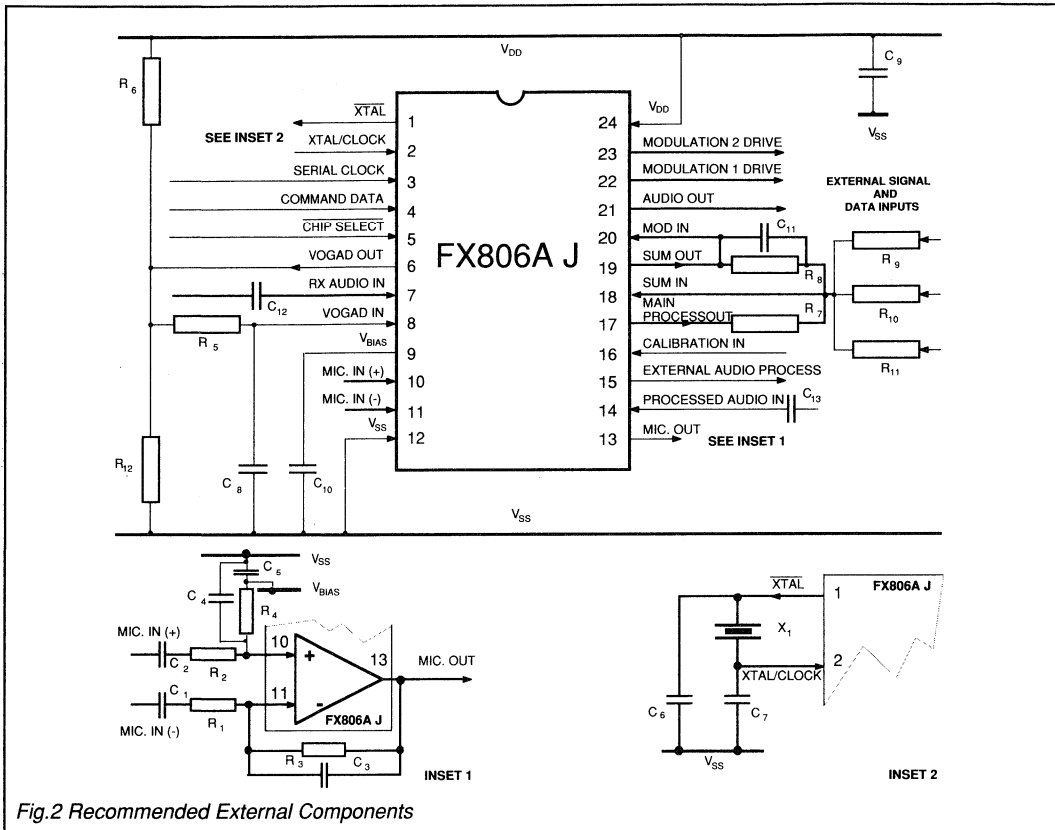

Fig.2 Recommended External Components
6. With Input gain components set as recommended in Figure 2.
1	Xtal: The output of the on-chip clock oscillator. External components are required at this output when a Xtal circuit is employed. See Figure 2, INSET 2.
2	Xtal/clock: The input to the on-chip clock oscillator inverter. A Xtal or externally derived clock should be connected here. See Figure 2, INSET 2. This clock provides timing for on-chip elements, filters etc.
6	VOGAD Out: The output of the relevant VOGAD sensor. This output, with external attack and decay setting components, should be connected as in Figures 2 and 3, to the VOGAD In pin.
8	VOGAD In: The gain control signal from the selected VOGAD sensor (VOGAD Out) to the "Input Process" Voltage Controlled Amplifier. VOGAD operation is enabled via a Mode Command (Bit5). Individual sensors, automatically selected, permit gain control from either the Input Process or an external process. External attack and decay setting components should be applied as recommended in Figures 2 and 3.
9	<math>V_{BIAS}</math>: The output of the on-chip analogue circuitry bias system, held internally at $V_{DD}/2$ . This pin should be decoupled to $V_{SS}$ by a capacitor $C_{10}$ . See Figure 2.
10	Mic In (+): The non-inverting input to the microphone Op-Amp. This input requires external components for Op-Amp gain/attenuation setting as shown in Figure 2, INSET 1.
11	Mic In (-): The inverting input to the microphone Op-Amp. This input requires external components for Op-Amp gain/attenuation setting as shown in Figure 2, INSET 1.
13	<p>Mic Out: The output of the microphone Op-Amp, used with the Mic In (–) input to provide the required gain/attenuation using external components as shown in Figure 2. The external components shown are to assist in the use of this amplifier with either inverting or non-inverting inputs. During Powersave (Volume Command) this output is placed at <math>V_{SS}</math>.</p>
17	<p>Main Process Out: The output of the Main Process stage. This output is summed with additional system inputs as required (Audio, Sub-Audio Signalling, FFSK – See System Overview) in the on-chip Modulation Summing Amplifier. External components as shown in Figure 2 should be used as required.</p>
18	<p>Sum In: The input and output terminals of the on-chip Modulation Summing Amplifier. External components are required for input signals, with gain/attenuation setting as shown in Figure 2. For single-signal, no-gain requirements, Main Process Out may be linked directly to Modulation In.</p>
### VOGAD Components Calculations – Figures 2 and 3